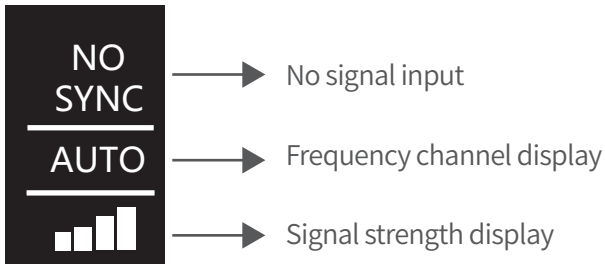
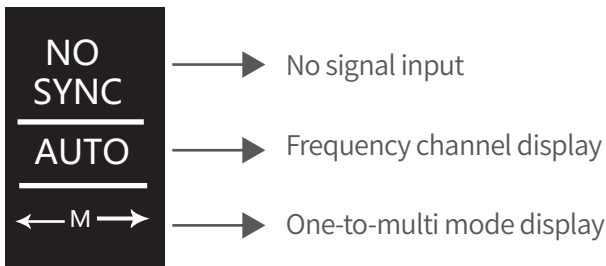

Fig. 1
Fig. 3
When no signal input, the transmitter is consistent with the receiver display content. See Fig. 1
When the transmitter has no signal input, see Fig. 3
- (3) Switch on both FLOW6500 transmitter and receiver, “Power” indicator light up, OLED screen show “WAIT...” then jump to initial interface, see fig.1 or fig.3; Wait until “Link” and “Video” indicator light up, the transmitter and receiver have identifiable signal inputs and connected successfully. If the transmitter and receiver have identifiable signal inputs but fail to establish a connection, the "link" indicator will flash.
“Power” indicator light up, OLED screen show “WAIT...” then jump to initial interface, see fig.1 or fig.3; Wait until “Link” and “Video” indicator light up, the transmitter and receiver have identifiable signal inputs and connected successfully, right push the joystick to “PREF” interface, see fig.11.